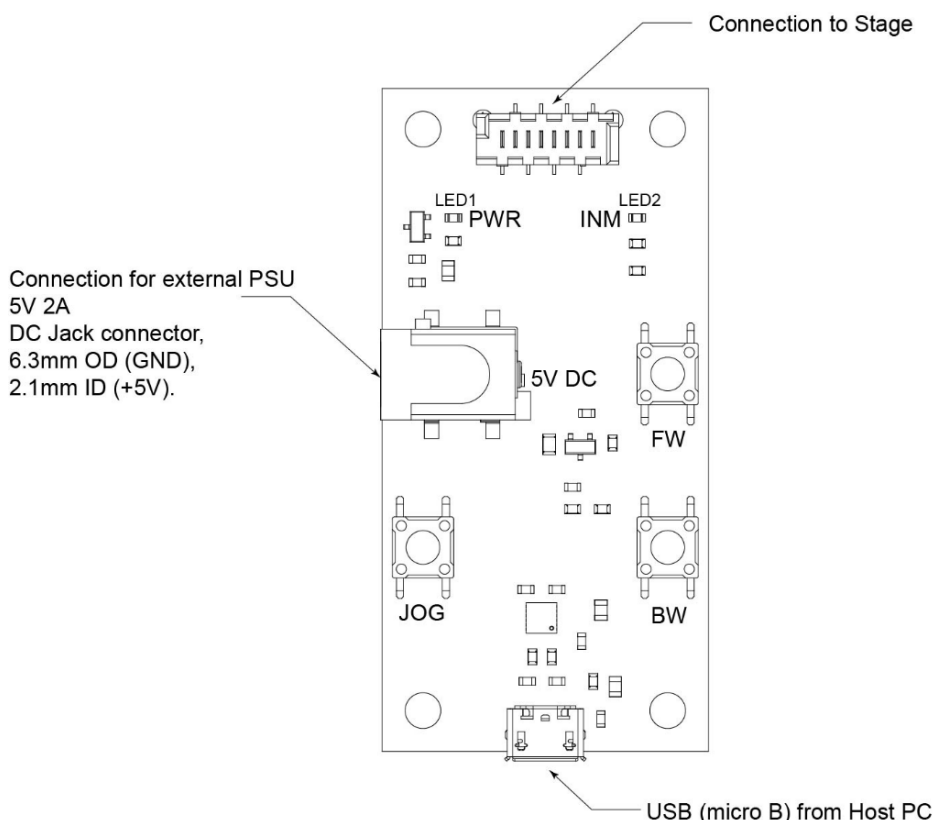
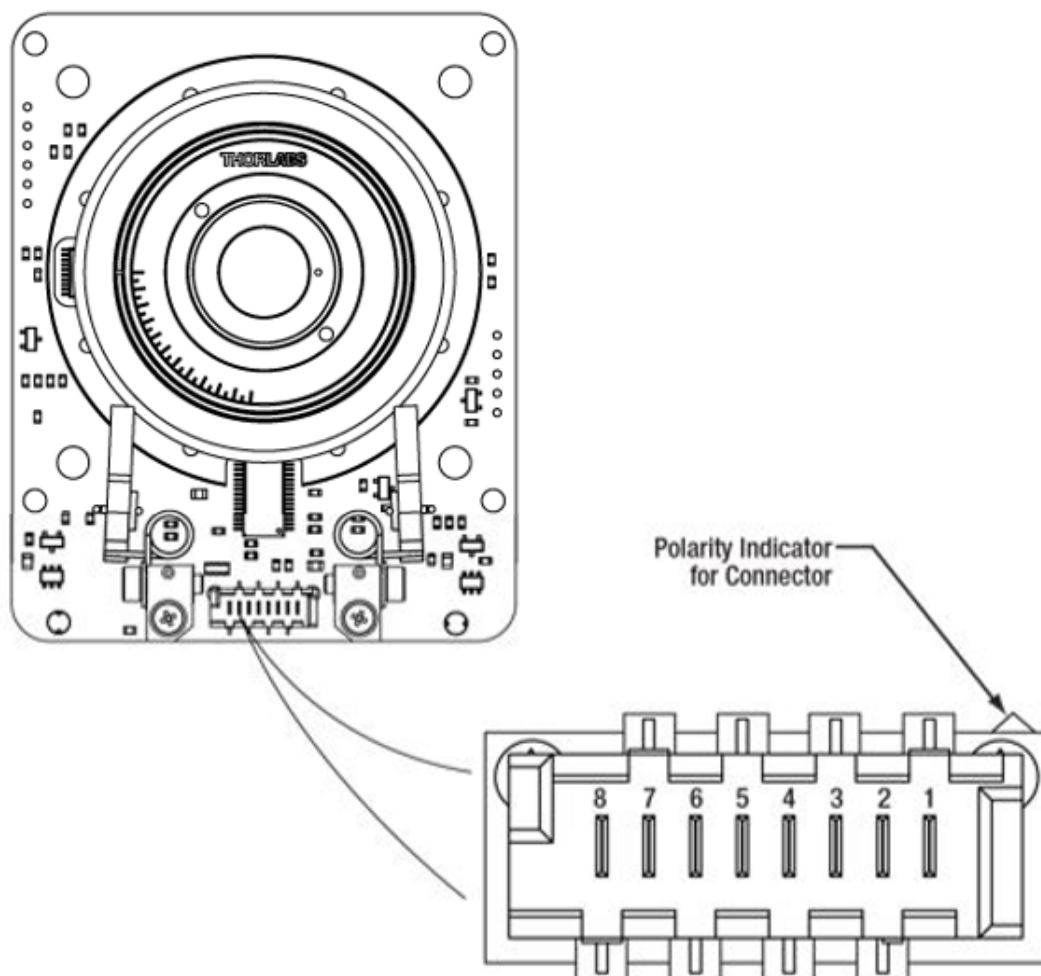

Figure 5 Handset Details
Figure 8 Connector J1 Pin Out Details
The unit is easily damaged by connections with incorrect polarity. Pin 1 of the connector on the PCB is marked with an arrow (refer to Figure 5 and Figure 8) which should be adjacent to the red wire in the connecting cable.
- Apply voltages into Connector J1's digital lines. Refer to Figure 8. It provides jogging and homing functionality.
Do not exceed the voltage and current ratings stated in Figure 8.